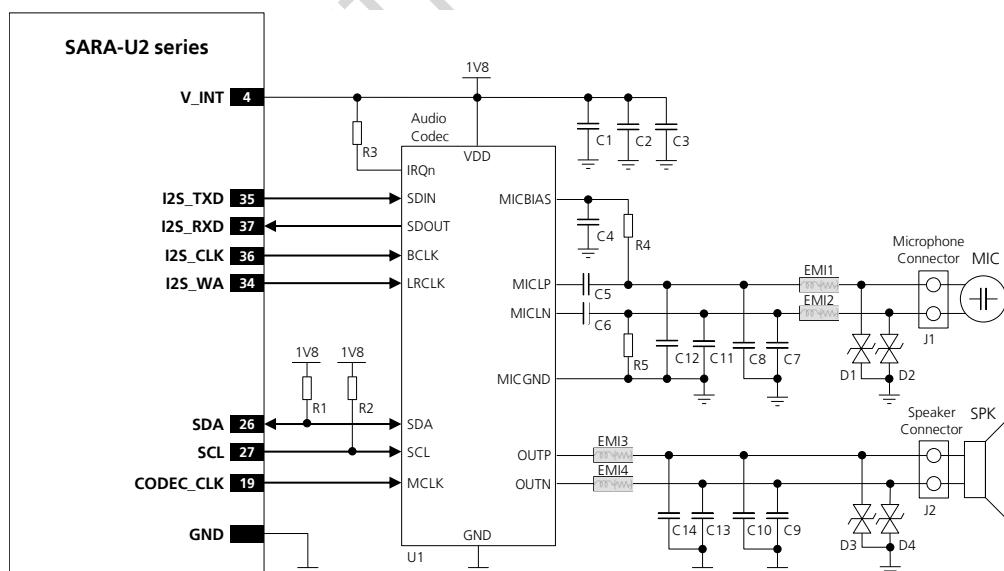

Figure 78: Application circuit for connecting SARA-U2 modules with an external audio codec to provide voice capability
Figure 78 and Table 44 describe an application circuit for the I2S digital audio interface of SARA-U2 modules providing voice capability using an external audio voice codec. DAC and ADC integrated in the external audio codec respectively converts an incoming digital data stream to analog audio output through a mono amplifier and converts the microphone input signal to the digital bit stream over the digital audio interface.
- Additional components are provided for EMC and ESD immunity conformity: a 10 nF bypass capacitor and a series chip ferrite bead noise/EMI suppression filter provided on each microphone line input and speaker line output of the external codec as described in Figure 78 and Table 44. The necessity of these or other additional parts for EMC improvement may depend on the specific application board design.